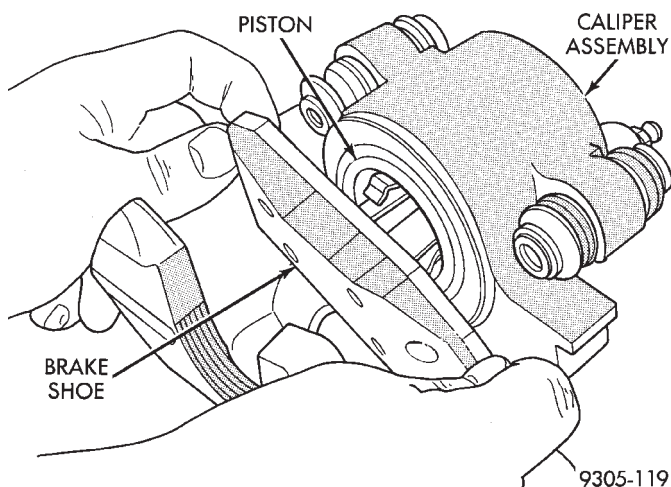

Fig. 8 Installing Inboard Brake Shoe Assembly
(5) Install the new inboard brake shoe assembly into the caliper piston by firmly pressing into piston bore with thumbs (Fig. 8). Be sure inboard brake shoe assembly is positioned squarely against face of caliper piston.